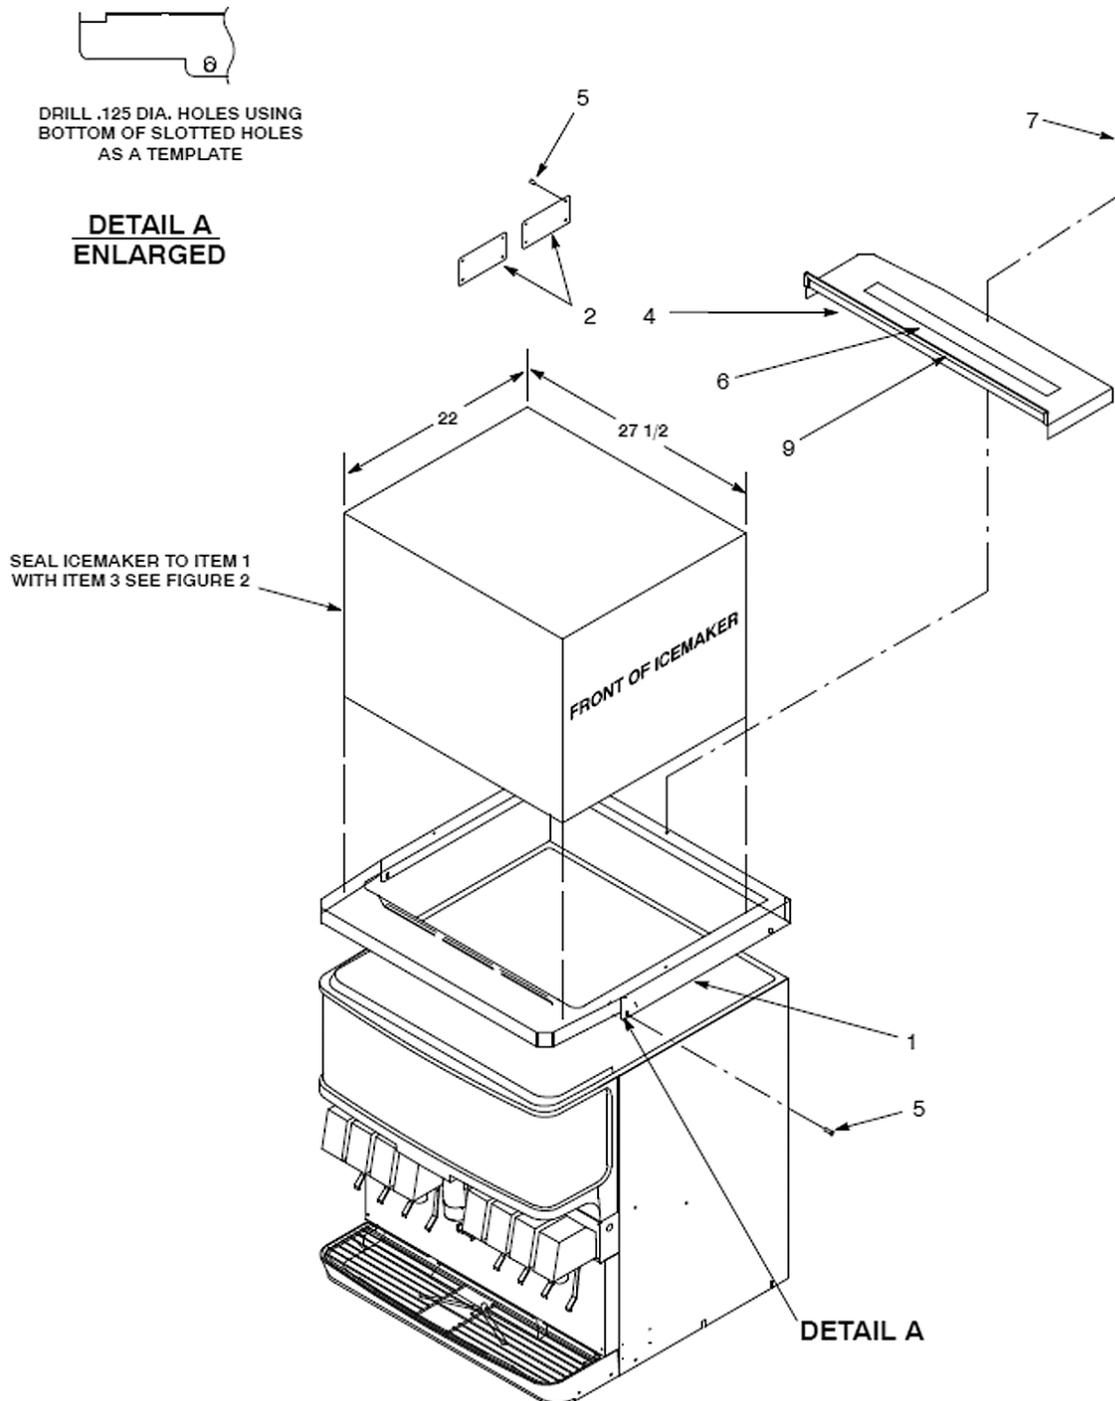

Figure 1. Dispenser Front View
- Using the slotted holes in the lid as a template, drill four 0.147" diameter holes (#26 Drill) at the bottom of the slots (see Figure 1, detail A). Use extreme care not to drill into the hopper. Fasten the lid to the dispenser with 4-#10 sheet metal screws.
6. Install the insulation strip (item 9) and the warning label (item 6) on the removable cover (item 4) as shown in Figure 1. Secure the cover in position on the lid over the rear bin access opening with the thumb screw (item 7). Note that the insulation strip should be compressed against the ice maker cabinet to form a seal with the cover and secured in position.